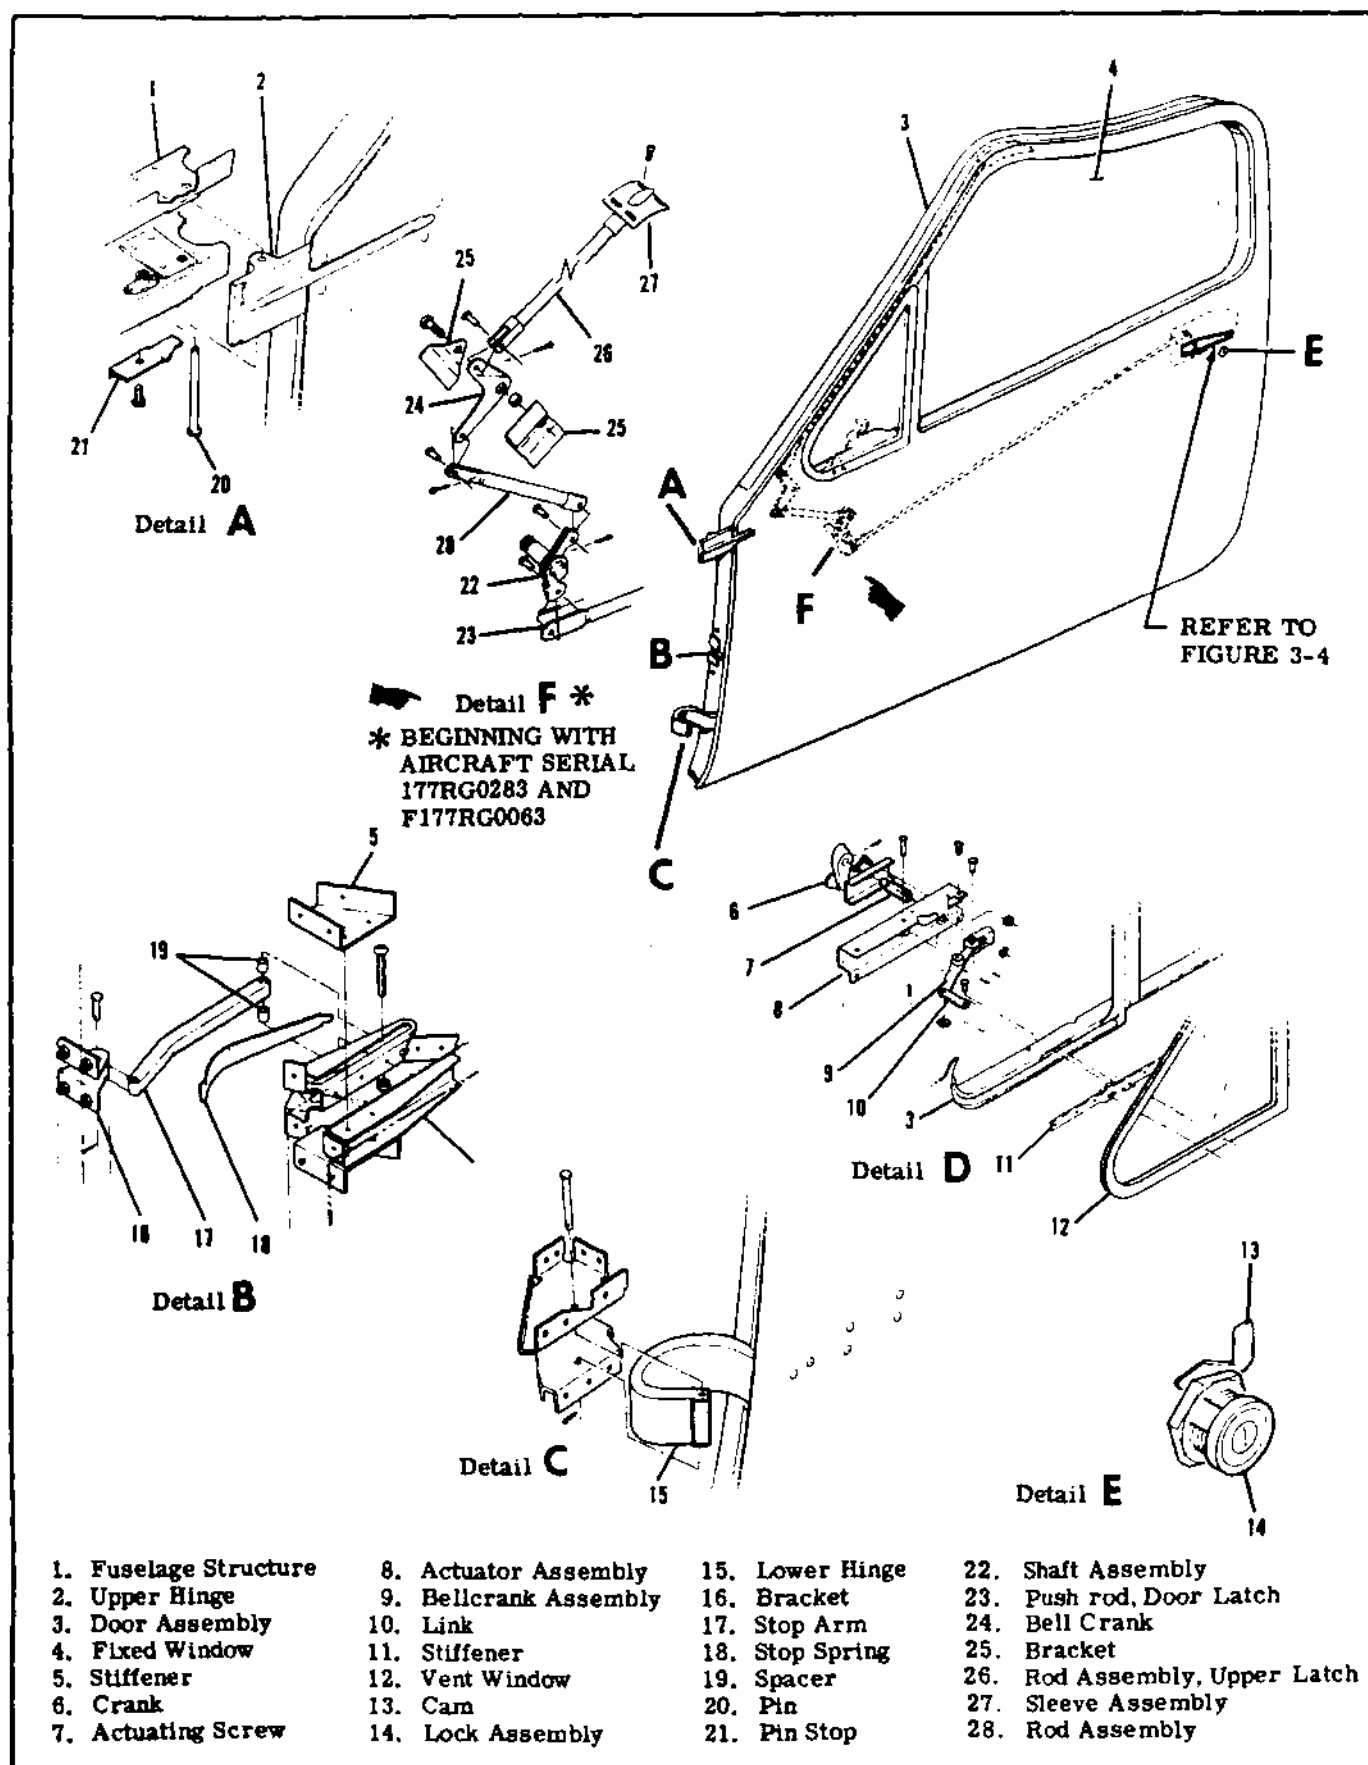

Figure 3-3. Cabin Door Installation
3-13. MOVABLE. (Refer to figure 3-3.) A movable window, hinged at the aft edge, is installed in the forward part of each cabin door. The window is operated by a crank on the inside of the door. A rubber seal is attached to the window frame. This seal should be sprayed periodically with MS-122 (18598) or equivalent to prevent adhering to the window. Confine the spray to seal do not overspray.
- DOOR WINDOWS. (Refer to figure 3-3.)
3-19. CABIN DOORS. (Refer to figure 3-3.)
3-23. **LATCHES.** (Refer to figure 3-3 and 3-4.)
3-24. **DESCRIPTION.** The cabin door latch is a push-pull bolt type, utilizing a rotary clutch for positive bolt engagement. As the door is closed, teeth on the underside of bolt engage gear teeth on the clutch. The clutch gear rotates in one direction only and holds the door until the handle is moved to LOCK position, driving bolt into the slot. Beginning with Aircraft Serial 177RG0283 and F177RG0063 a latching bolt has been added to the forward upper corner of the door. (Refer to figure 3-3.) Linkage connected to the inside door handle moves the bolt to engage a hole location in the door jamb, when the door handle is moved to the locked position.
Refer to Figure 3-3 for forward door latch installation.